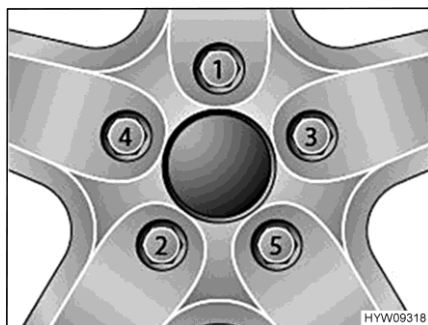

Fig. 122 Tightening the wheel nuts or wheel bolts cross-wise
- Tighten the wheel nuts or wheel bolts in the order shown in Fig. 122. In order to do this, use a torque wrench and comply with the specified tightening torque (see section 14.5).
- Check regularly that the wheel nuts or wheel bolts are firmly seated. Re-tighten the wheel nuts or wheel bolts of a changed wheel after 50 km (30 miles). While doing so, proceed in the order shown in Fig. 122.
- When using new or newly painted rims, re-tighten the wheel nuts or wheel bolts once again after approx. 1,000 to 5000 km (600 miles to 3,000 miles). While doing so, proceed in the order shown in Fig. 122.